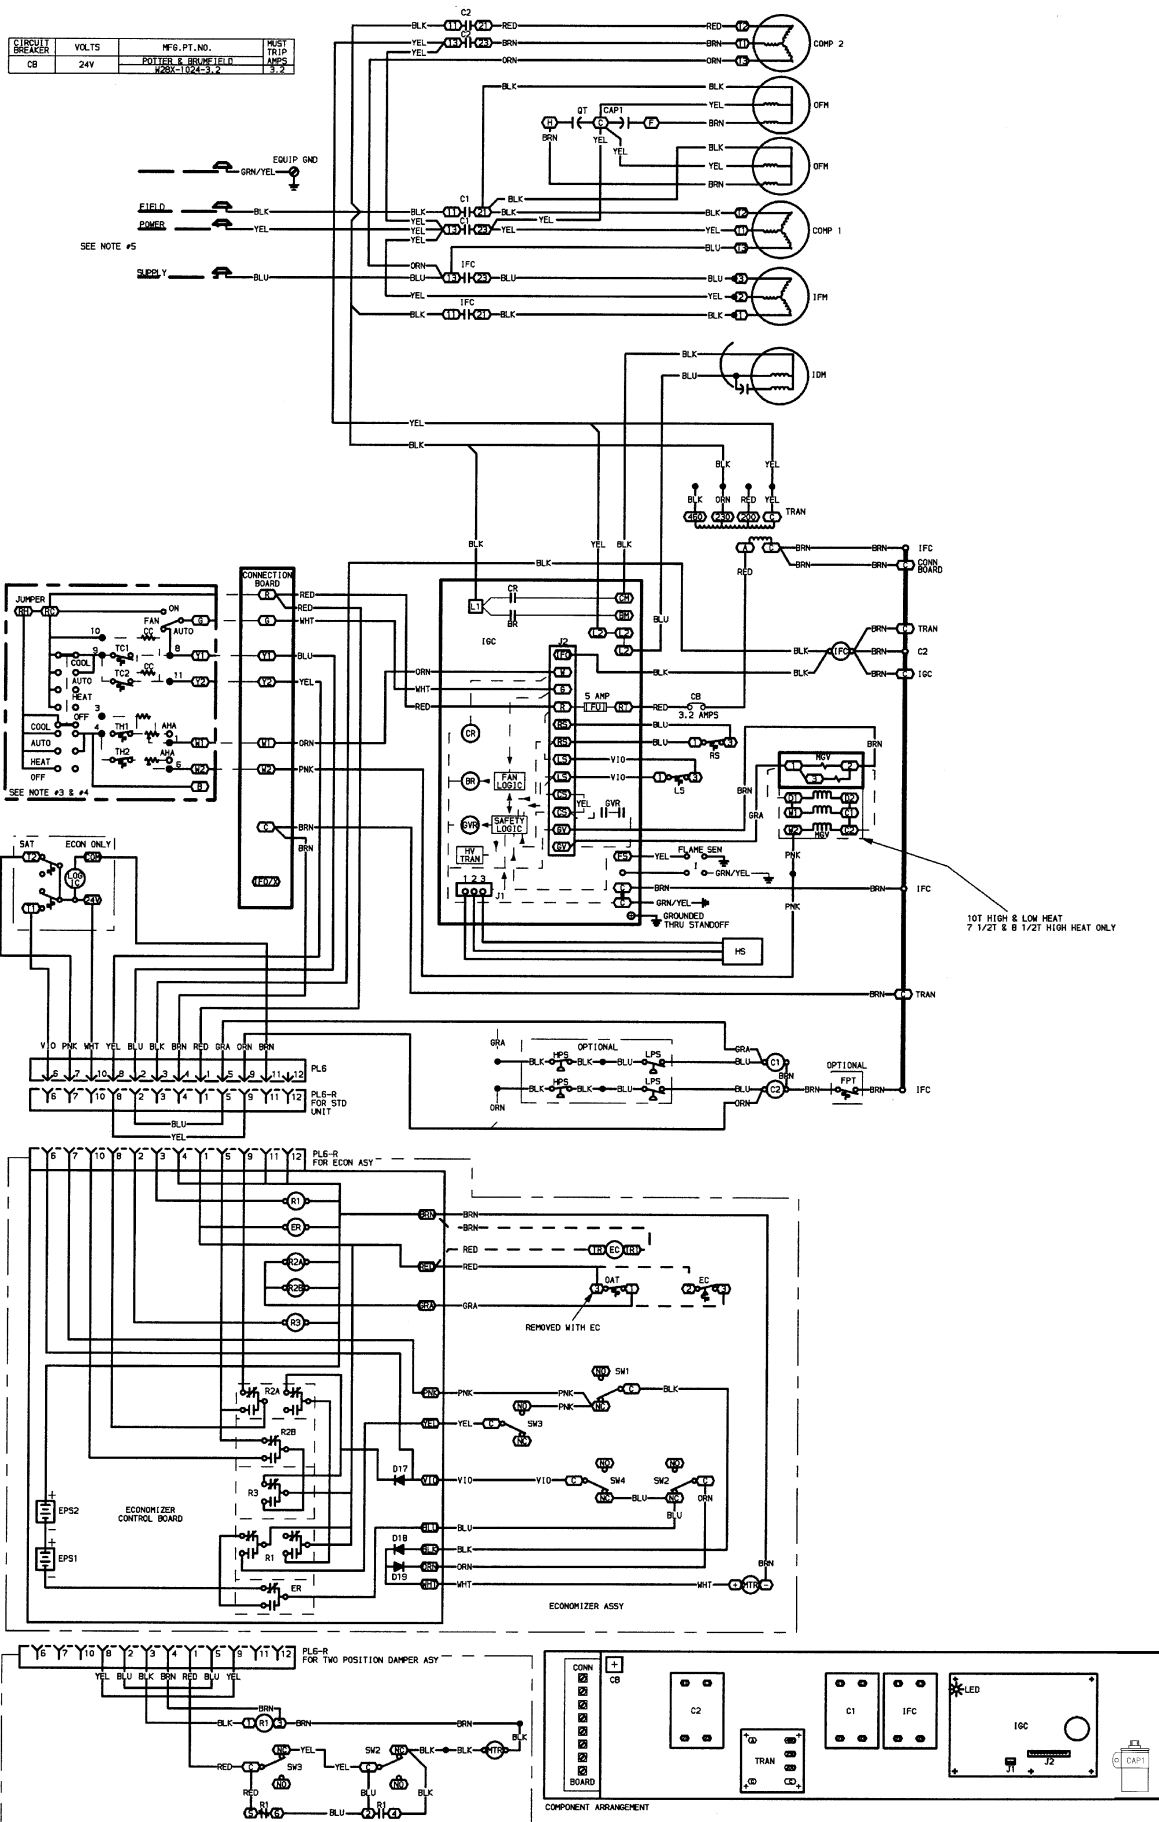

Fig. 48 — Typical Wiring Schematic and Component Arrangement
**LEGEND AND NOTES FOR FIG. 48**